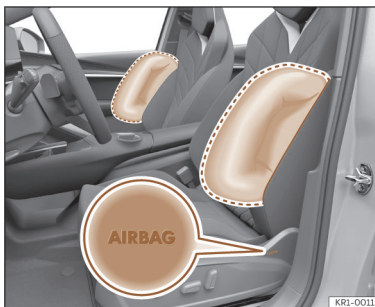
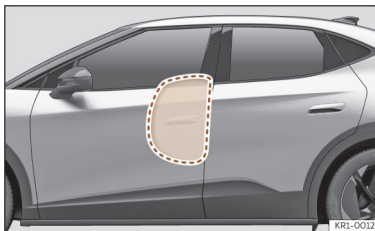

Fig. 31 Driver's seat and passenger seat side airbags.
Fig. 32 Illustration of completely inflated side airbag on left side of vehicle.
The side airbags are located in the front seat backrests >>> **Fig. 31**, >>> **Fig. 32**.
- Ensure that children are correctly seated in their seats and that their heads are not in the deployment zone of the side airbags >>> Fig. 32, as deploying airbags could hit them and cause serious injury.